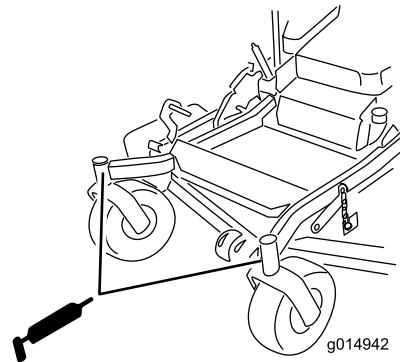

Figure 35
9. Install the hex plug and dust cap (Figure 35).